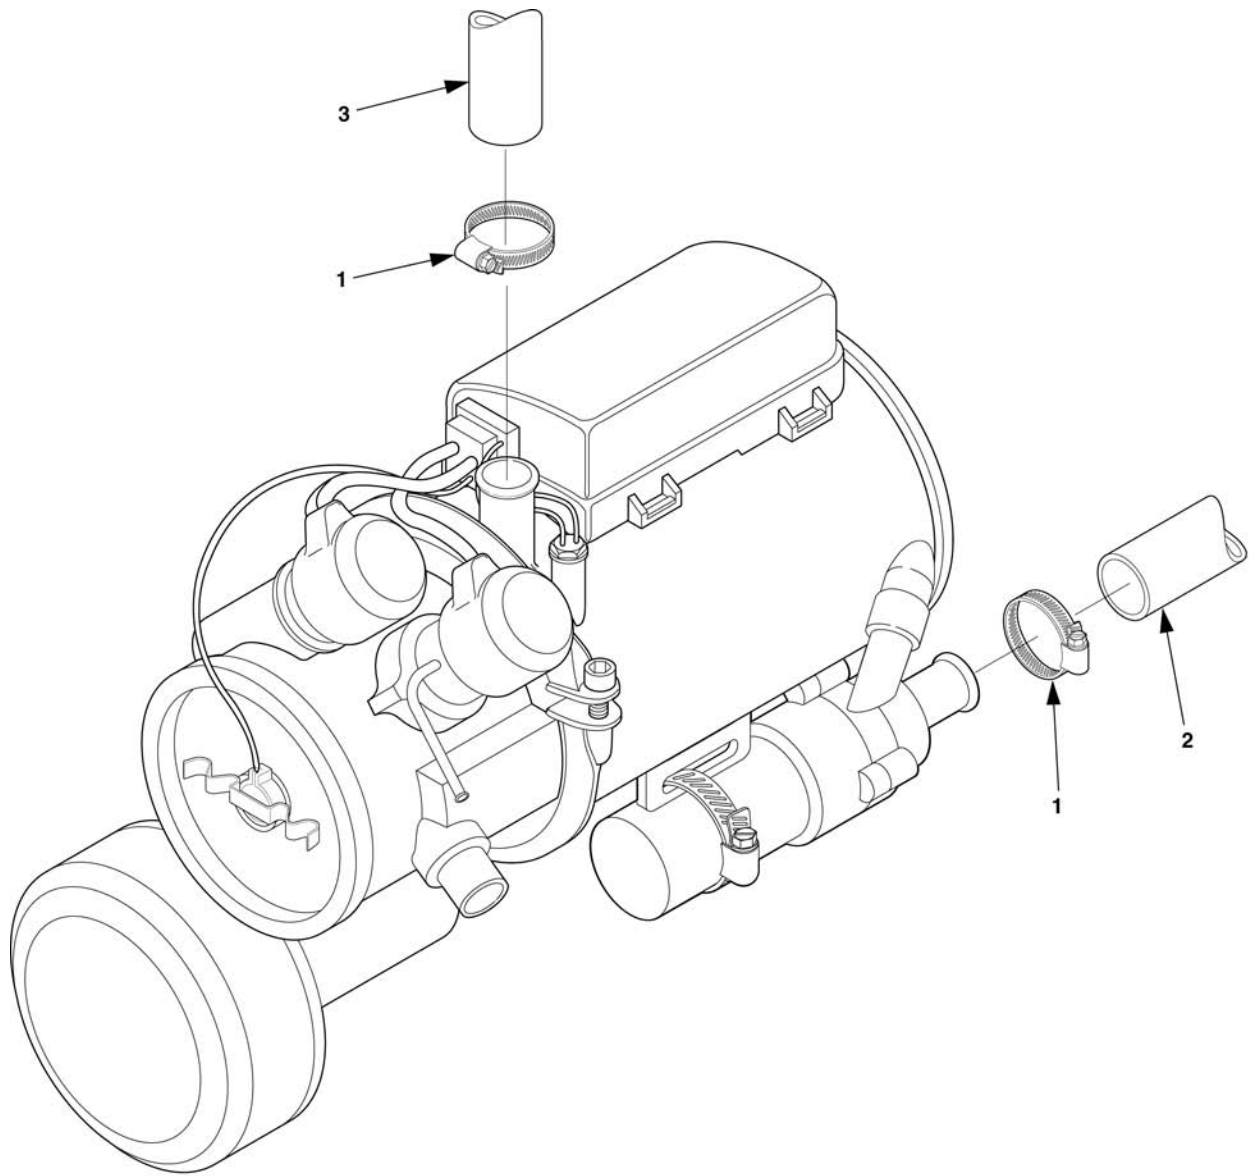

Figure 6-19. Coolant Hose Maintenance (MEP-804A/MEP-814A).
- b. Loosen screw clamps (1, Figure 6-19) (MEP-804A/MEP-814A) to disconnect either or both coolant hoses, inlet (2) or outlet (3) from the heater. Drain any coolant from the hoses into a suitable container.